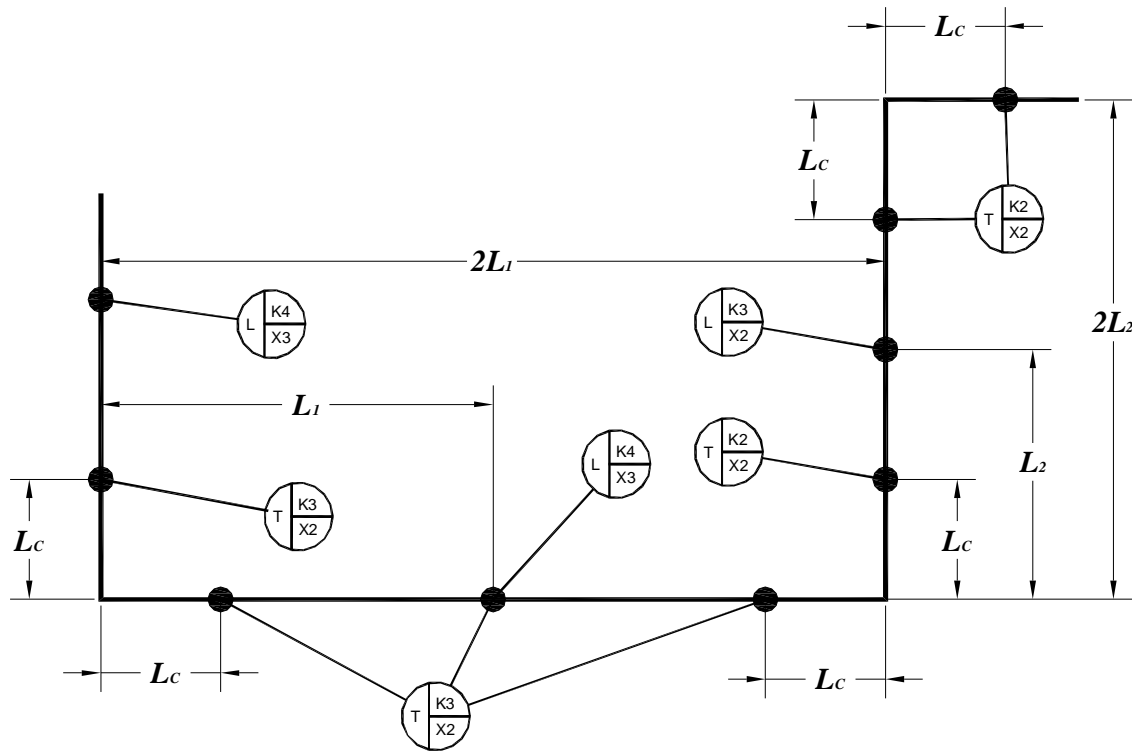

Figure S1-18; Rules #19 & #20 – Typical Seismic Restraint Layout for Domestic Hot & Chilled Water
1. Only one longitudinal restraint can be fitted to a run of pipe. Under normal conditions it should be located in the center of the piping run to allow the pipe to experience unrestrained axial growth or shrinkage at the ends of the run, as shown in Figure S1-18 below. See Section S7.7 of this manual for a description of the symbols used in Figure S1-18. In any case, care must be taken that the restrained length of pipe on each side of the restraint is less than the amount that would cause buckling of the pipe under the expected design horizontal seismic force for the project, see Appendices A6.1, A6.2, and A6.4.